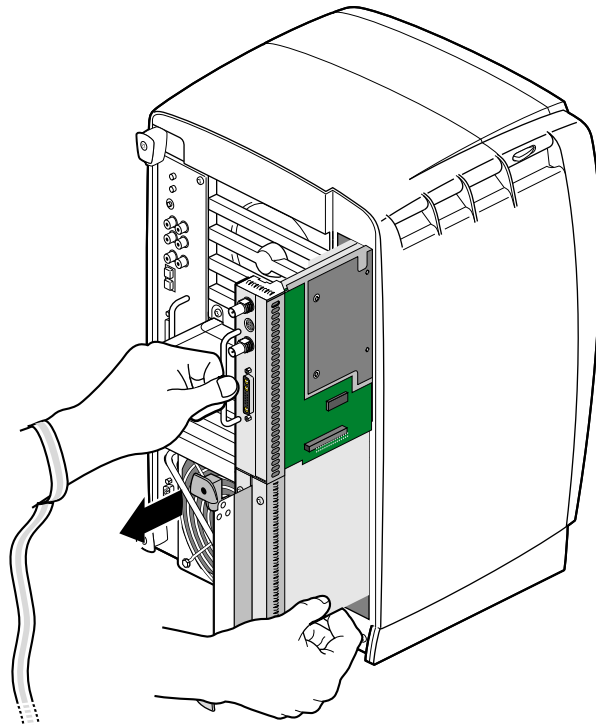

Figure 1-8 Removing the XIO Tri-Module
4. Grasp the XIO Tri-Module along its length, and support the base of the module with your hand as you remove it from the chassis, as shown in Figure 1-8.